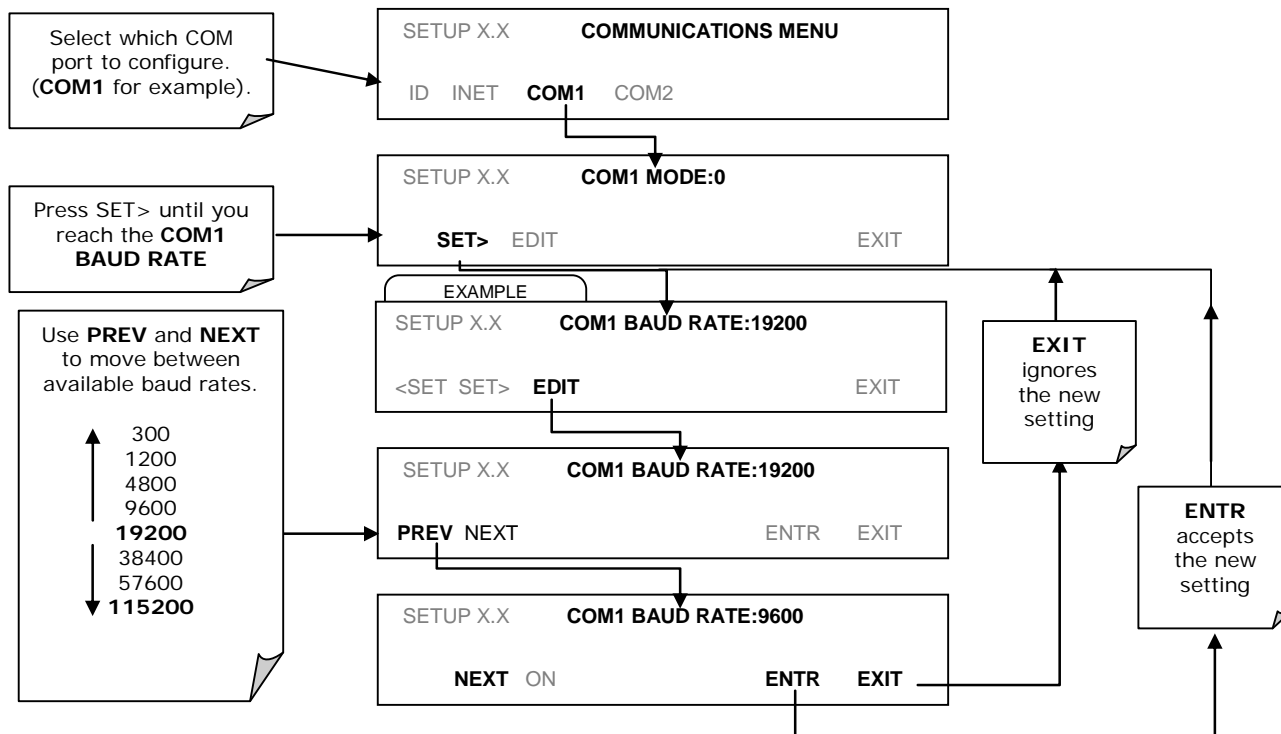

Figure 6-1: COMM – COMM Port Baud Rate
2. Press the SET> button until "COM2 BAUD RATE:xxxxx" appears in the Param field of the instrument display. (Figure 6-1 shows the menu sequence).